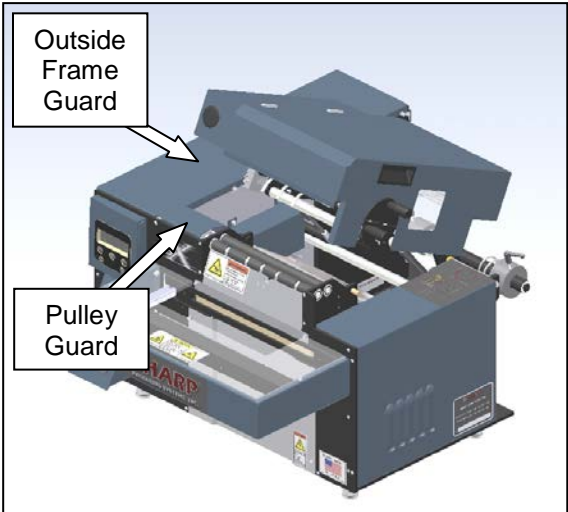

Figure 3-153. Guard Identification
1. Remove the outside frame guard and the pulley guard (Figure 3-153).